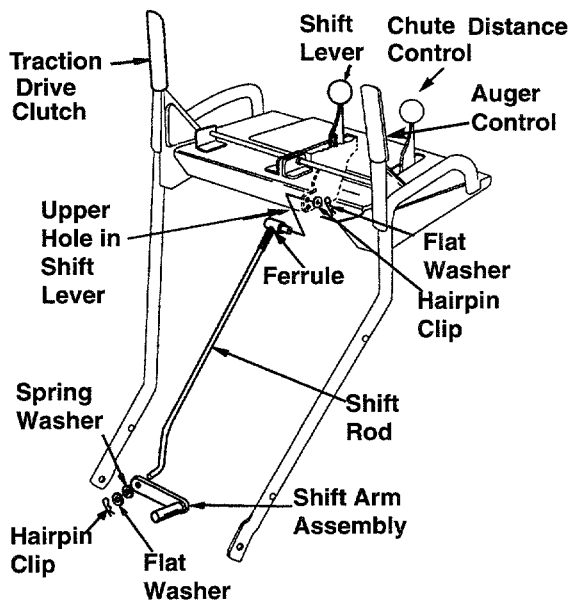

Figure 22
- Place the shift lever on the handle panel in the sixth (6) speed position (all the way forward).
- Push down on the shift rod (and shift arm assembly) as far as it will go. Hold it in this position. See Figure 22.
- Insert the ferrule into the upper hole in the shift lever from the right side when adjustment is correct. Secure with the flat washer and the hairpin clip that you had earlier removed. See Figure 22.